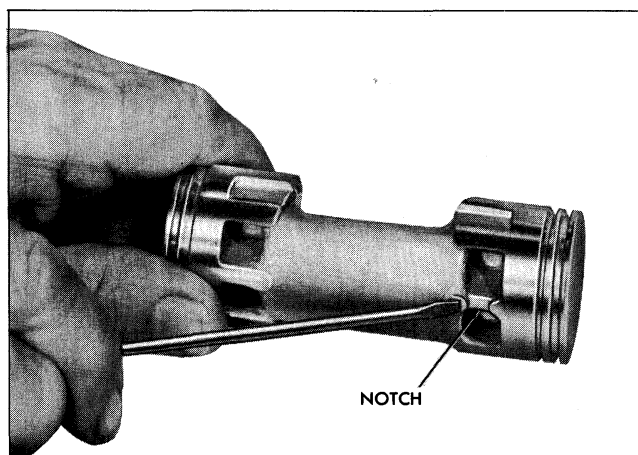
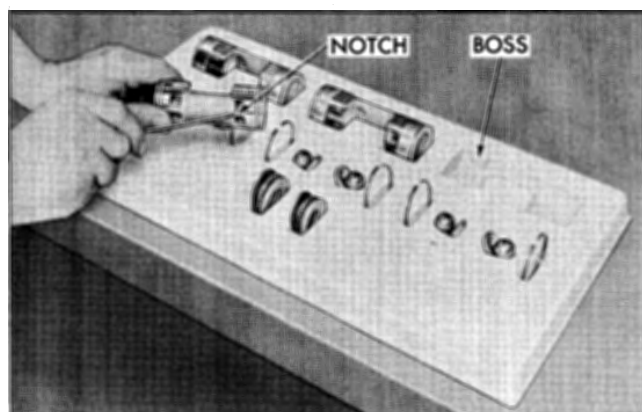

Fig. 5-15 Compressor Parts in Tray
Fig. 5-16 Identification of Front End of Piston
6. Push on compressor shaft and carefully remove pistons, piston rings, shoes and balls; one assembly at a time. Place parts in the J-9402 tray to keep parts together (Fig. 5-15). The front end of the piston has an identifying notch in the casting web (Fig. 5-16).